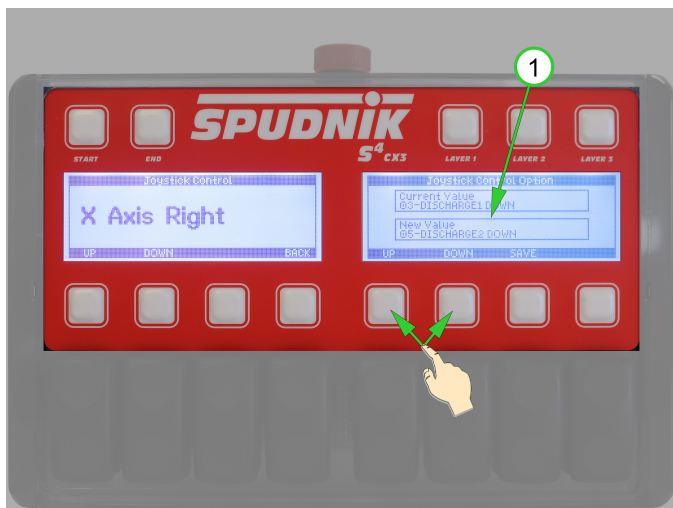

Figure 20
2. Joystick controls can be remapped using the Joystick or the CX3 (e.g., if the Joystick is temporarily unavailable). To remap using the Joystick, activate the Joystick axis position, momentary button, or rocker switch to be remapped. The name of the active Joystick control displays on the left screen. The *Current Value* and (1) *New Value* fields display on the right screen. (See Figure 20)